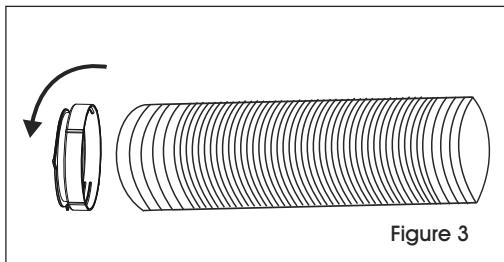

Figure 3
2. Screw the hose onto adapter A. (See Figure 3)